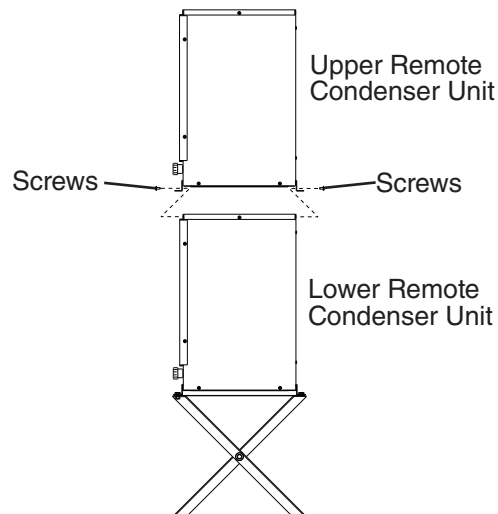

Fig. 18
- 2) Place the upper remote condenser unit on top of the lower remote condenser unit. See Fig. 18.